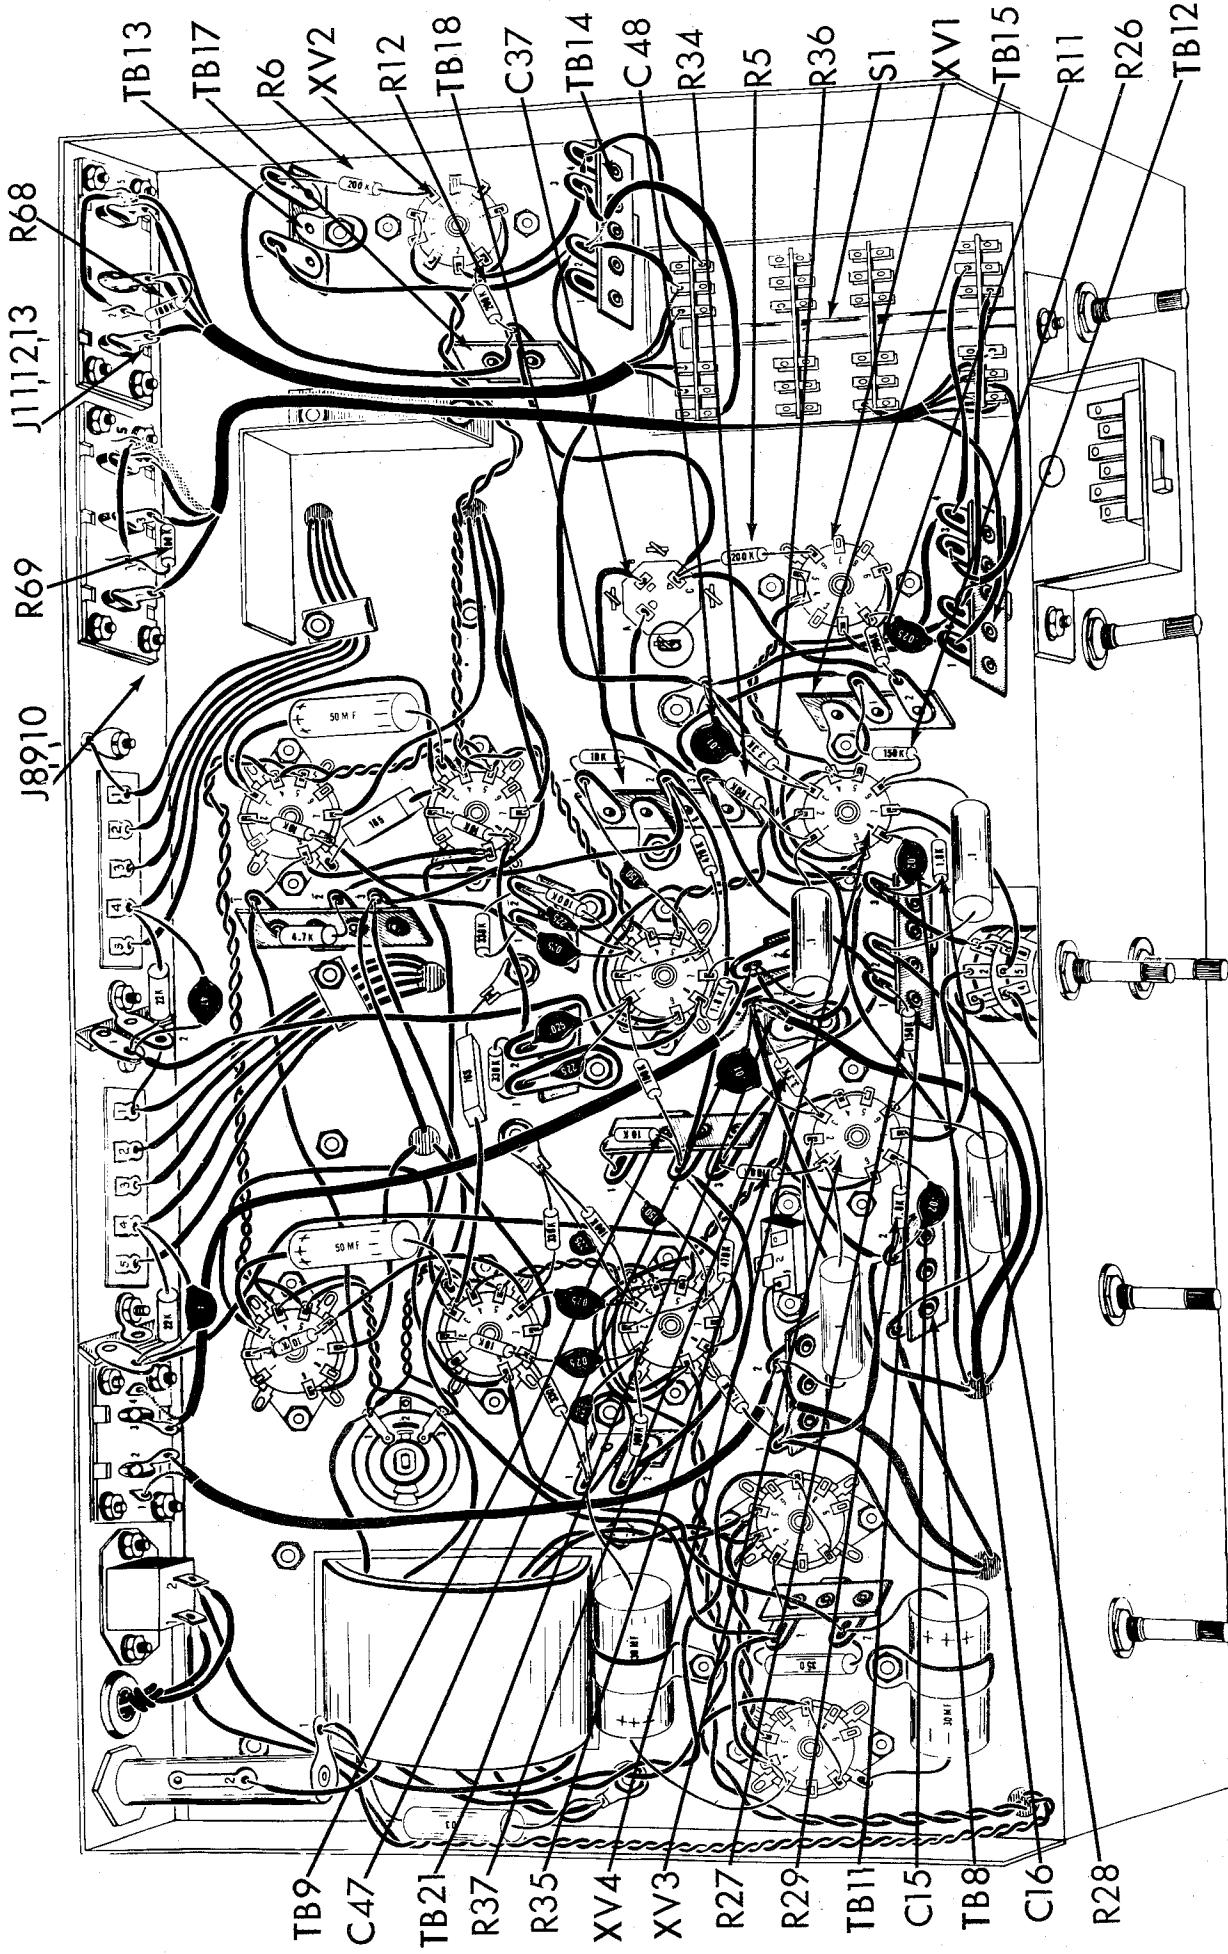

Fig. 10
1. (✓) Fig. 10. Cut all leads on two 100KΩ (brown, black, yellow, silver) resistors, R34 and R35, to  $1\frac{1}{2}$ ". Connect R34 from XV4-1 (S2) to TB18-3 (S4). Connect R35 from XV3-1 (S2) to TB9-3 (S2).
2. (✓) Fig. 10. Cut all leads on two 150KΩ (brown, green, yellow, silver) resistors, R26 and R27, to  $1\frac{1}{2}$ ". Connect R26 from XV4-6 (S2) to TB15-1 (S2). Connect R27 from XV3-6 (S2) to TB11-1 (S3).
3. (✓) Fig. 10. Cut all leads on two 1.8KΩ (brown, grey, red, silver) 10% resistors, R28 and R29, to  $1\frac{1}{2}$ ". Connect R28 from XV4-8 (C) to TB11-3 (C). Connect R29 from XV3-8 (C) to TB8-2 (C).
4. (✓) Fig. 10. Cut all leads on two .02mfd (20K or 20,000mmf) disc capacitors, C15 and C16, to  $1\frac{1}{2}$ ". Connect C15 from XV3-8 (S2) to TB8-2 (S4). Connect C16 from XV4-8 (S2) to TB11-3 (S5).
5. (✓) Fig. 10. Cut all leads on two 3. 3KΩ (orange, orange, red, silver) resistors, R36 and R37, to  $5\frac{1}{8}$ ". Connect R36 from XV4-3 (C) to ground lug "G" (C). Connect R37 from XV3-3 (C) to TB21-1 (C).
6. (✓) Fig. 10. Cut all leads on two .01mfd (10K or 10,000mmf) disc capacitors, C47 and C48, to  $3\frac{3}{4}$ ". Connect C47 from XV3-3 (S2) to TB21-1 (C). Connect C48 from XV4-3 (S2) to ground lug "G" (C).
7. (✓) Fig. 10. Connect a 4" piece of orange wire from C37-C (C) to TB15-2 (C).
8. (✓) Fig. 10. Connect a 3  $1\frac{1}{2}$ " piece of black wire from ground lug "G" (C) to TB12-2 (C).
9. (✓) Fig. 10. Connect a 4" piece of orange wire from TB17 (C) to C37-C (C).
10. (✓) Fig. 10. Connect a 4  $1\frac{1}{2}$ " piece of black wire from ground lug "G" (C) to TB14-2 (C).
11. (✓) Fig. 10. Connect a 4" piece of orange wire from TB17 (C) to TB13-2 (C).
12. (✓) Fig. 10. Connect a 3  $1\frac{1}{2}$ " piece of black wire from TB14-2 (C) to TB13-1 (C).
13. (✓) Fig. 10. Connect the black lead from S1A-10 to TB12-2 (C).
14. (✓) Fig. 10. Connect the brown lead from S1D-7 to TB12-1 (C).
15. (✓) Fig. 10. Connect the shield from the single conductor shielded cable from S1B-5) to TB12-2 (C). Connect the inner conductor to TB12-3 (C).
16. (✓) Fig. 10. Connect the grey lead from S1B-11 to TB12-4 (C)
17. (✓) Fig. 10. Connect the grey lead from S1G-12 to TB14-4 (C).
18. (✓) Fig. 10. Connect the shield from the single conductor shielded cable (from S1G-6) to TB14-2 (C). Connect the inner conductor to TB14-3 (C).
19. (✓) Fig. 10. Connect the black lead from S1H-11 to TB14-2 (C).
20. (✓) Fig. 10. Connect a 1  $1\frac{1}{2}$ " piece of bare wire covered with a 1  $1\frac{1}{4}$ " piece of spaghetti from J8, 9, 10-2 (C) to J8, 9, 10-5 (C).
21. (✓) Fig. 10. Connect a 1  $1\frac{1}{2}$ " piece of bare wire covered with a 1  $1\frac{1}{4}$ " piece of spaghetti from J11, 12, 13-2 (C) to J11, 12, 13-5 (C).
22. (✓) Fig. 10. Cut all leads on two 100KΩ (brown, black, yellow, silver) resistors, R68 and R69, to  $1\frac{1}{2}$ ". Connect R68 from J11, 12, 13-2 (S2) to J11, 12, 13-3 (C). Connect R69 from J8, 9, 10-2 (S2) to J8, 9, 10-3 (C).
23. (✓) Fig. 10. Run the three conductor shielded cable from switch wafer S1H along the chassis as shown. Connect the shield to J11, 12, 13-5 (S2); connect the brown lead to J8, 9, 10-1 (S1); connect the red lead to J8, 9, 10-3 (S2); and connect the orange lead to J8, 9, 10-4 (S1).
24. (✓) Fig. 10. Run the three conductor shielded cable from switch wafer S1H along the chassis as shown. Connect the shield to J11, 12, 13-5 (S2); connect the brown lead to J11, 12, 13-1 (S1); connect the red lead to J11, 12, 13-3 (S2); and connect the orange lead to J11, 12, 13-4 (S1).
25. (✓) Fig. 10. Connect a 2" piece of grey wire from TB12-4 (C) to XV1-2 (C).
26. (✓) Fig. 10. Connect a 3" piece of grey wire from TB14-4 (C) to XV2-2 (C).
27. (✓) Fig. 10. Cut all leads on four 200KΩ (red, black, yellow, gold) 5% resistors, R5, R6, R11 and R12 to  $5\frac{1}{8}$ ". Connect R5 from C37-C (C) to XV1-6 (C). Connect R6 from TB13-2 (S2) to XV2-6 (C). Connect R11 from TB15-2 (S2) to XV1-1 (C). Connect R12 from TB17 (S3) to XY2-1 (C).